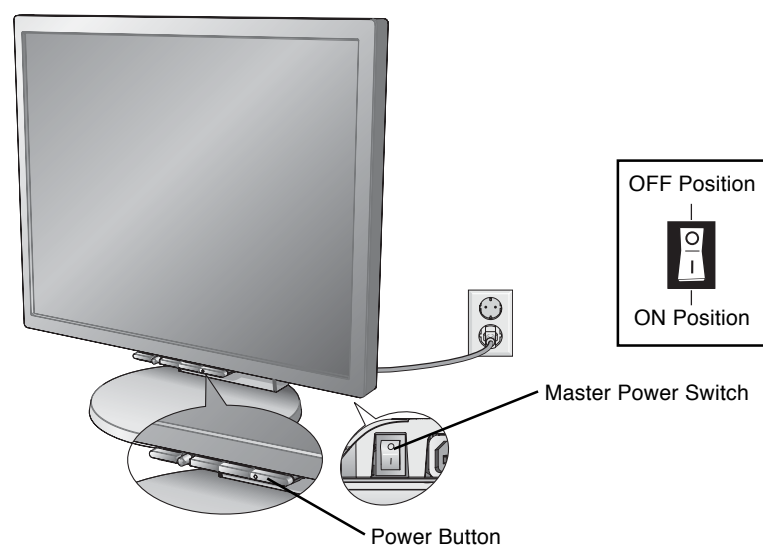

Figure B.1
2. The Master Power Switch (**Figure B.1**) must be turned on for the monitor to operate.
NOTE: The Master Power Switch on the back side of the monitor must be turned on (**Figure B.1**). Turn on the monitor with the front power button and the computer.